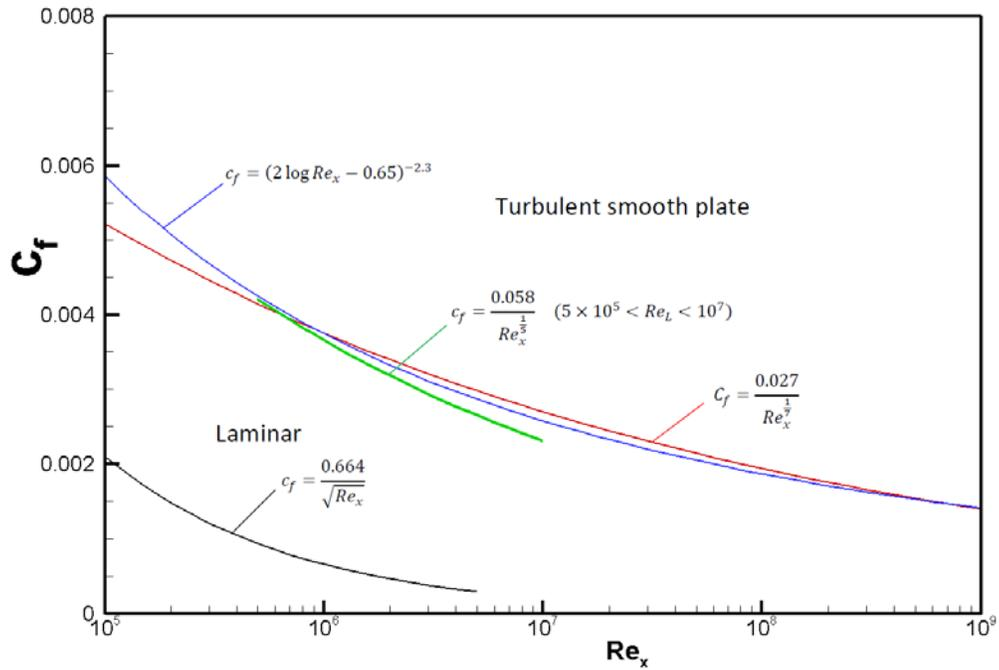

Figure A1: Local friction coefficient
5. A super tanker is 360 m long and has a beam width of 70 m and a draft of 25 m, cruising at a slow speed of $U = 5$ knots in seawater at 15.6°C ($\rho = 1,030 \text{ kg/m}^3$ and $\mu = 1.20 \times 10^{-3} \text{ N}\cdot\text{s/m}^2$). The tanker is modeled as a flat plate, of length L and width $b = B + 2D$, in contact with water. (a) Find the flow Reynolds number, $Re_L = \rho UL/\mu$, and the friction drag coefficient C_f . (b) Estimate the friction drag $F_D = \frac{1}{2}\rho U^2 AC_f$, where A is the area of the flat plate, and power $P = F_D U$ required to overcome F_D . You may use Figure A1 and A2 in appendix to find formulas for local friction coefficient and friction drag coefficient, respectively. (Note: 1 knot = 0.5144 m/s)